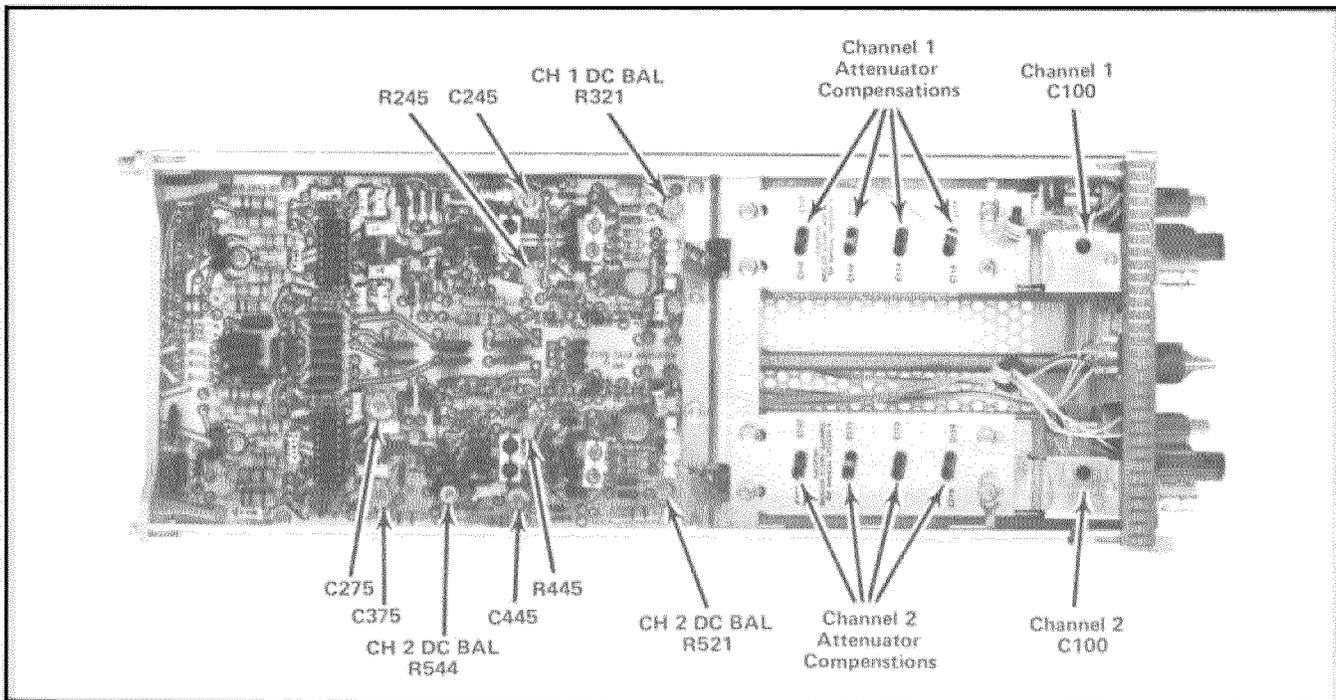

Fig. 5-1. Locations of adjustments used in this procedure. (7A18 shown.)
The locations of the 7A18 adjustments are shown in Fig. 5-1.
ADJUST--DC BAL (see number 5, Fig. 5-1) for no trace shift while switching CH 2 POLARITY switch from +UP to INVERT.
k. ADJUST—CH 2 VARIABLE DC BAL (R544, see number 9, Fig. 5-1) for minimum trace shift as the CH 2 VARIABLE control is rotated from fully counterclockwise to fully clockwise.